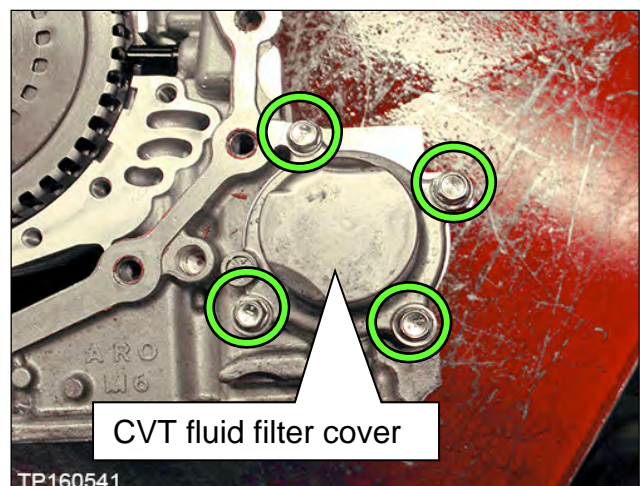

Figure 57
- Remove the four (4) bolts and then remove the CVT fluid filter cover (Figure 57).